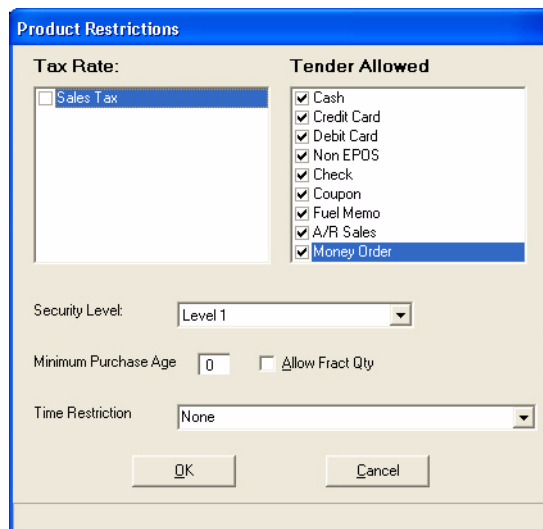

Figure 10-12 Product Restrictions Window
- Select **Override** to access the Product Restrictions programming window. See Figure 10-12.